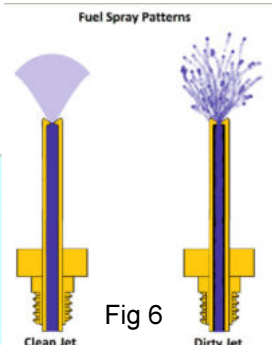

Fig 6
4. Internal cleanliness: Used jets may have an internal coating of dried varnish or gum left over from their use with leaded gasolines in the past. Even though the orifices may be sized correctly, internal constraints to the flow of gasoline can affect the performance of the jets. Restrictions may cause the jets to percolate fuel rather than freely feed it to the orifices. This may mean the dispersing pattern of the fuel is an ununiform spray rather than a mist, which can cause poor fuel economy and runability issues. See Fig 6. Using the proper size drill can clean out any residue in the barrels of the jets.